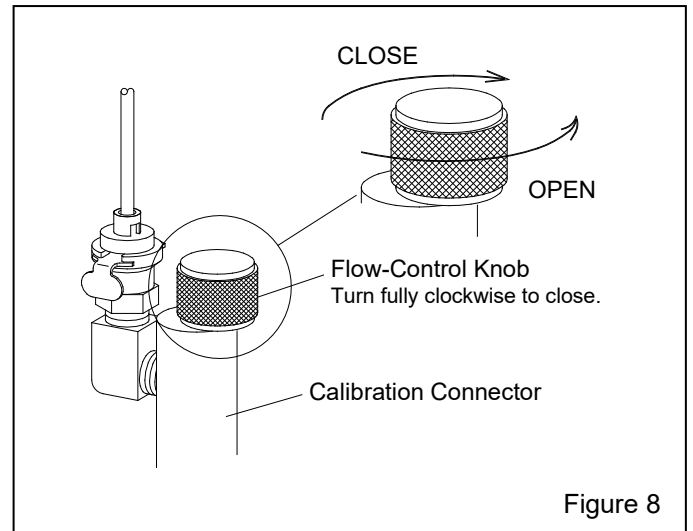

Figure 8
**4.6.3** Refer to Figure 8 and slowly open the flow-control knob on the calibration connector to introduce test gas. Test gas is entering the unit when the flow meter ball rises. If the ball does not rise when the calibration valve is opened, the test gas cylinder may be empty.
**5.6** Refer to Figure 8 and slowly open the calibration flow-control valve to introduce test gas. Test gas is entering the unit when the flow meter ball rises. If the ball does not rise when the calibration valve is opened, the test gas cylinder is probably empty.